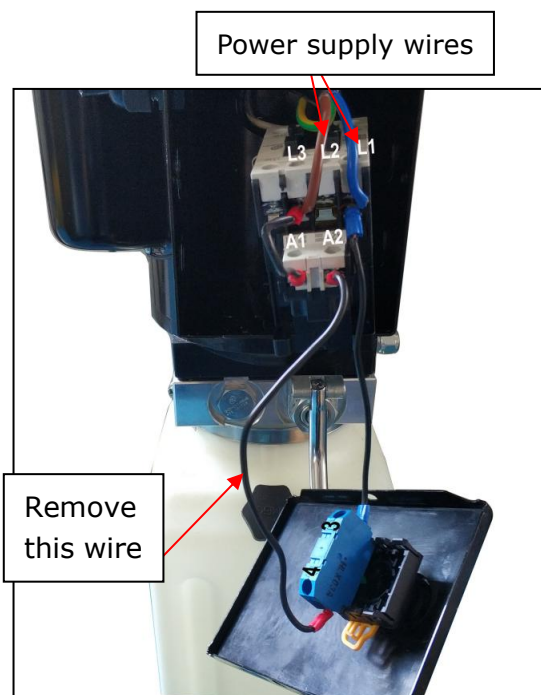
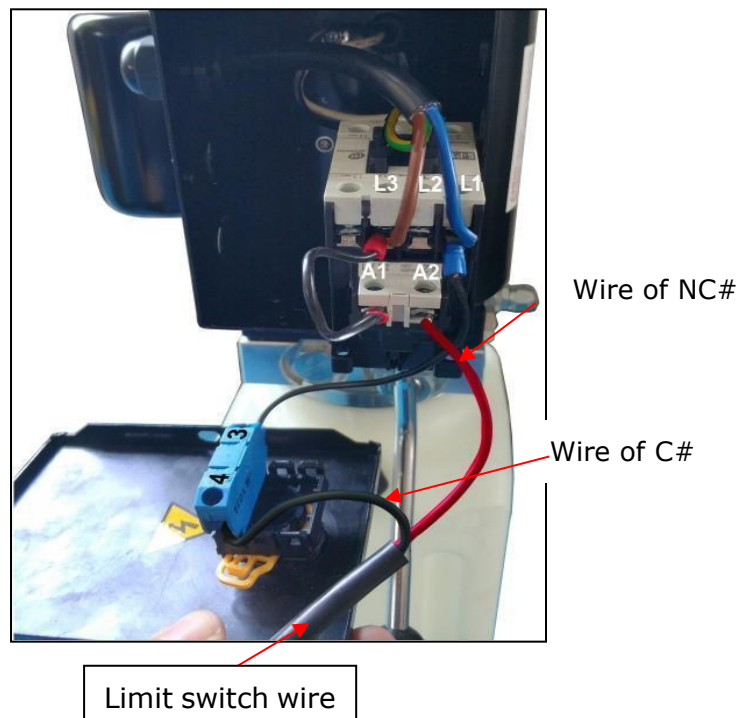

Fig. 32
Fig.33
2. Connecting Limit switch: Remove the short wire connecting terminal 4# of control button and A2 of AC contactor firstly (See Fig. 32). Then connect wire C#(black wire) of limit switch with terminal 4# of control button and connecting wire NC#(red wire) with terminals A2 of AC contactor respectively. (See Fig. 33)